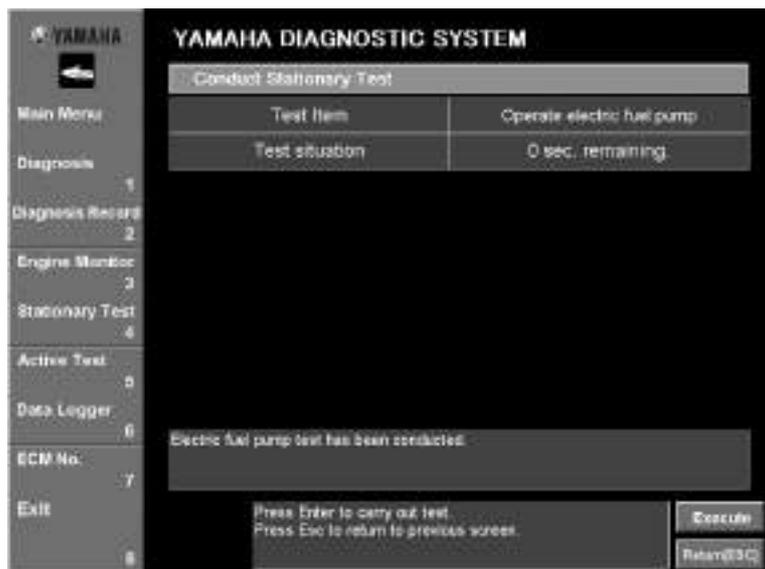

Fig. 54
4. To perform the test again, click the **Execute** button or press the Enter key on your keyboard. To perform a different test, click the **Return [ESC]** button or press the Esc key on your keyboard to return to the window where a different test can be selected. (Fig. 54)